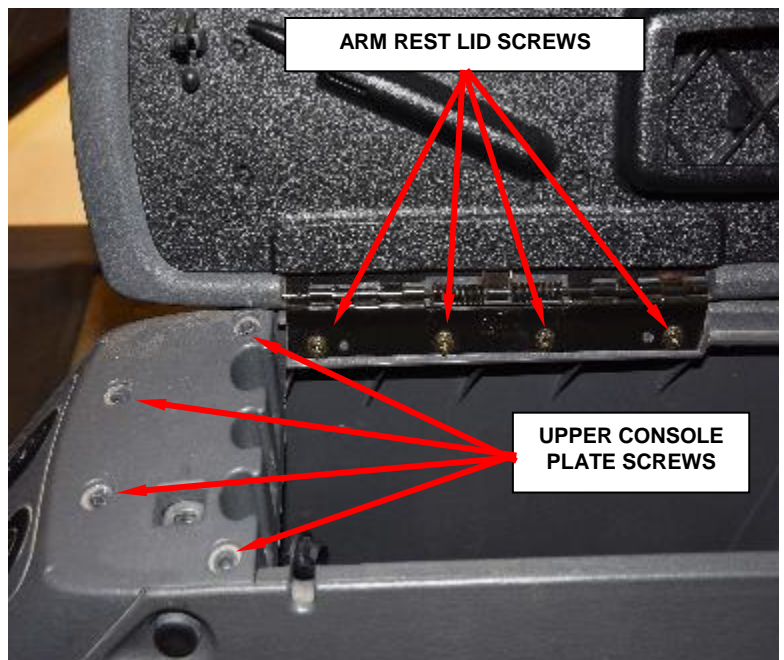

Figure 4 - Console Plate Attachment Screws
1. Remove and save the arm rest lid (Figure 4).
4. Remove and save the four upper floor console plate attachment screws (Figure 4).